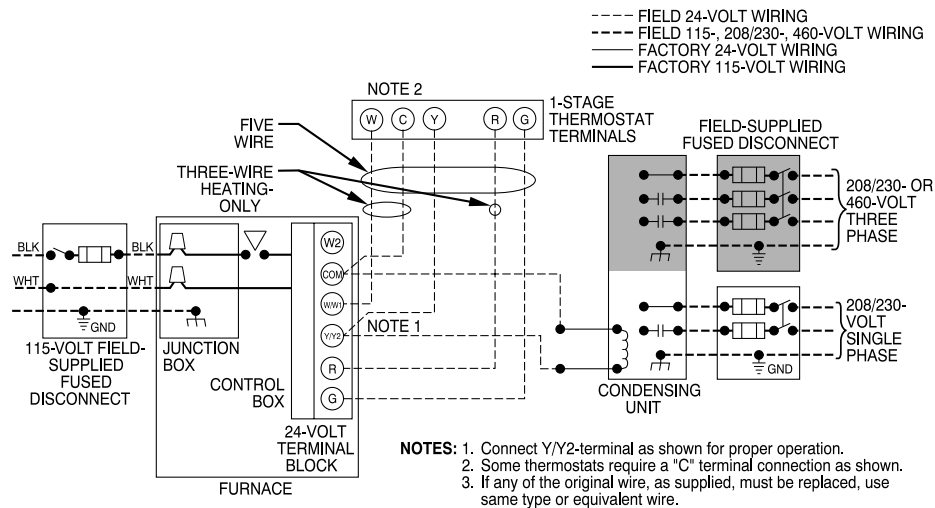
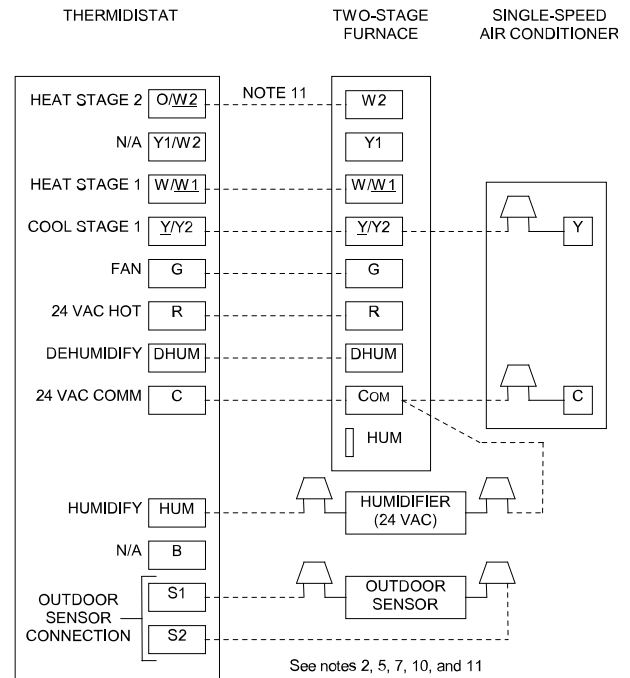
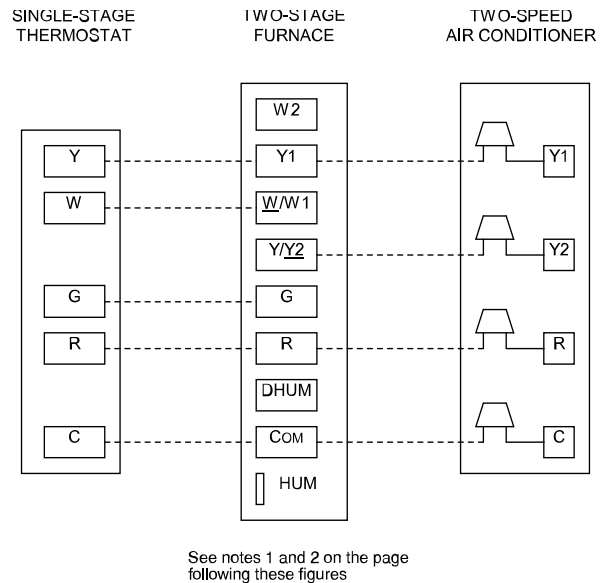
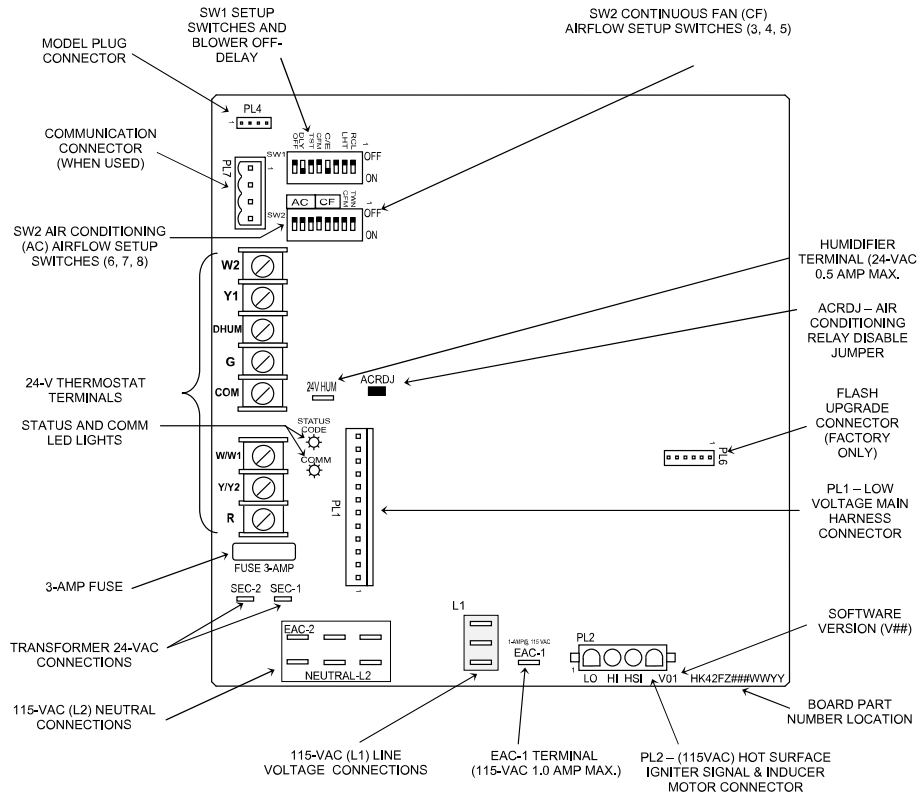

Fig. 24 – Field Wiring Diagram
Fig. 28 – Two-Stage Furnace with Single-Speed Air Conditioner
Fig. 35 – Single-Stage Thermostat with Two-Stage Furnace and Two-Speed Air Conditioner
Fig. 36 – Variable Speed Furnace Control for ECM Blower Motor
See Fig. 24 for field wiring diagram showing typical field 115-v wiring. Check all factory and field electrical connections for tightness.
5. Connect line voltage leads. (See Fig. 24).
Make field 24-v connections at the 24-v terminal strip. (See Fig. 24 - Fig. 36). Connect terminal Y/Y2 as shown in Fig. 28 - Fig. 35 for proper cooling operation. Use only AWG No. 18, color-coded, copper thermostat wire.
NOTES FOR FIGURES 28 - FIGURES 35:
Connect an accessory Electronic Air Cleaner (if used) using 1/4-in female quick connect terminals to the two male 1/4-in quick-connect terminals on the control board marked EAC-1 and EAC-2. The terminals are rated for 115VAC, 1.0 amps maximum and are energized during blower motor operation. (See Fig. 36).
(if used) to the 1/4-in male quick-connect HUM terminal and COM-24V screw terminal on the control board thermostat strip. The HUM terminal is energized when blower is energized in heating. (See Fig. 36).